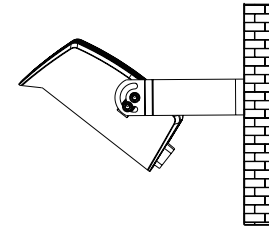

figure 4.4
Step 3: Loosen screw; Adjust fixture angles as per actual demands and tighten screws later.(figure 4.4), Tips:Angles of the fixture is adjustable